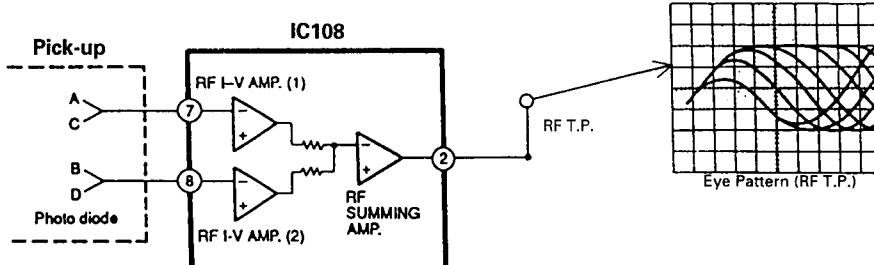

Fig. 7
**5. Remove the main board (Figure 7).**